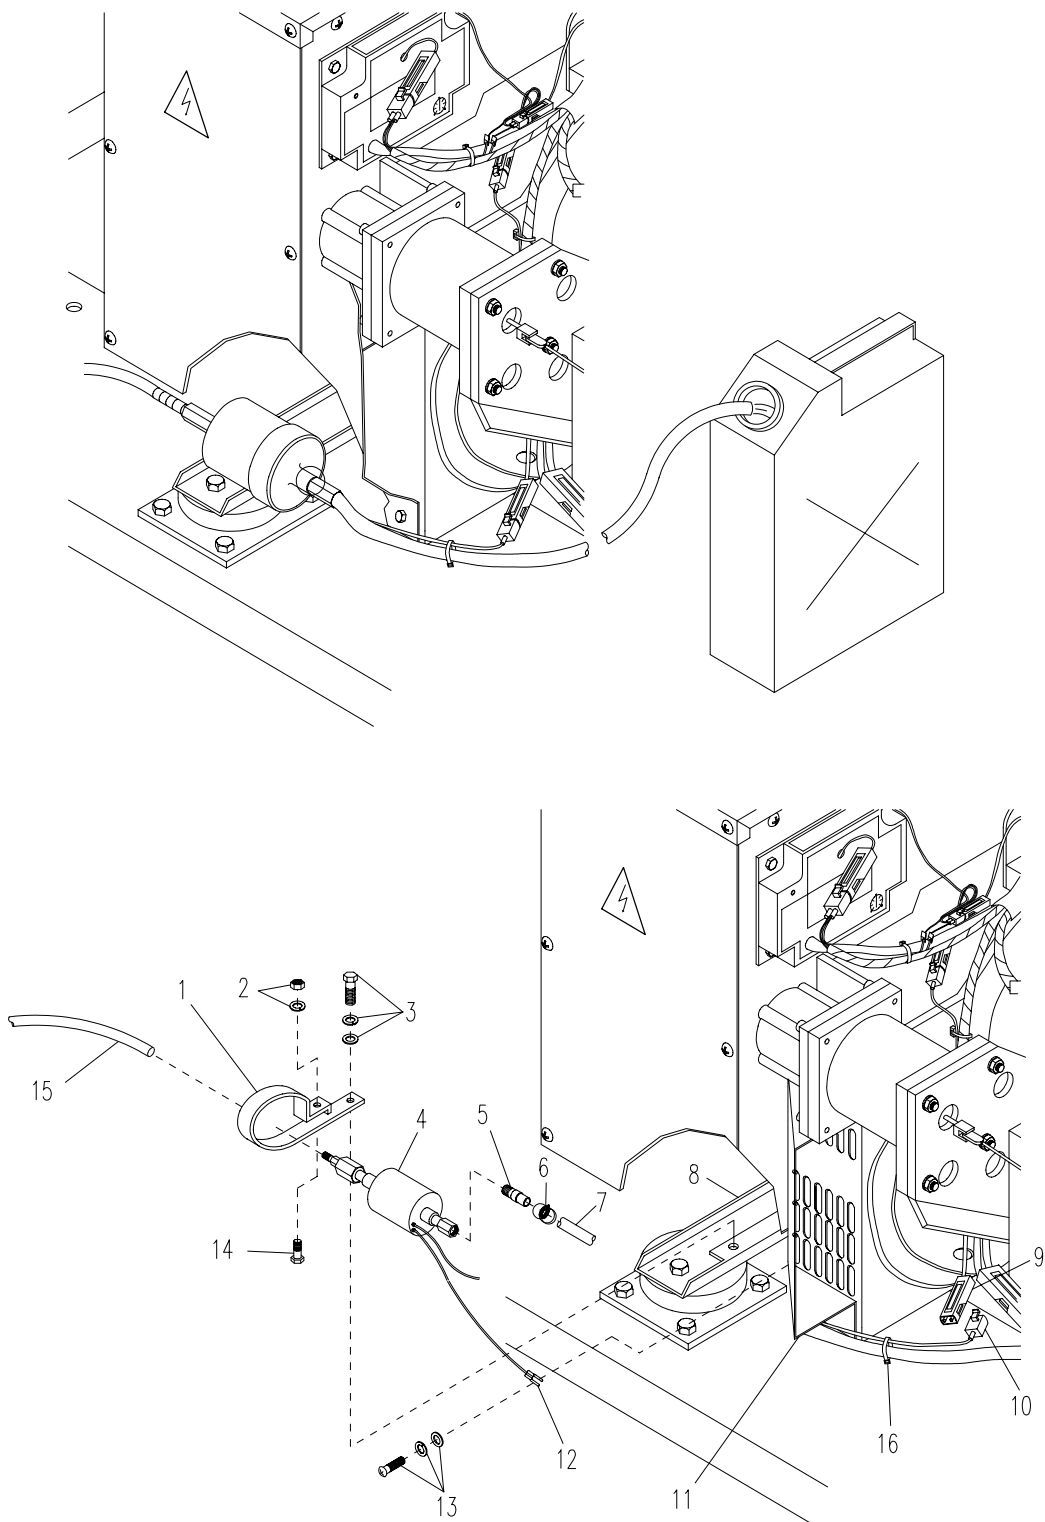

Figure 4-18. Fuel Pump Assembly
- b. Loosen clamp (6, Figure 4-18) and remove fuel line (7) from fittings (5) on fuel pump assembly (4).